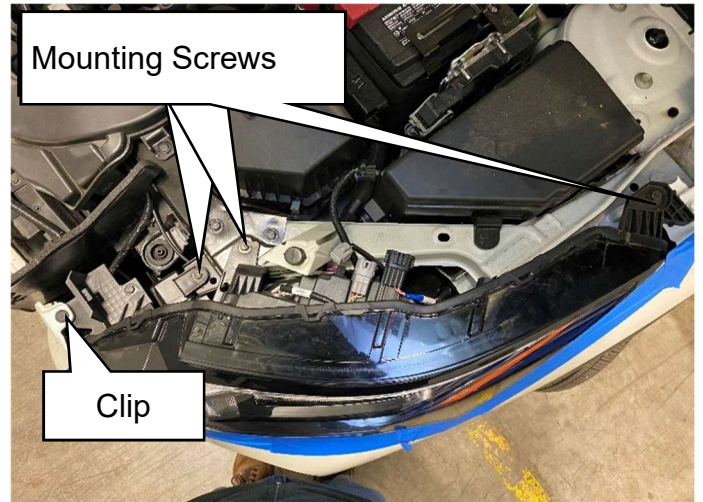

Figure 19
19. Install three (3) mounting screws and one (1) clip. (Figure 19)
- Install one (1) clip
- Install three (3) screws and torque